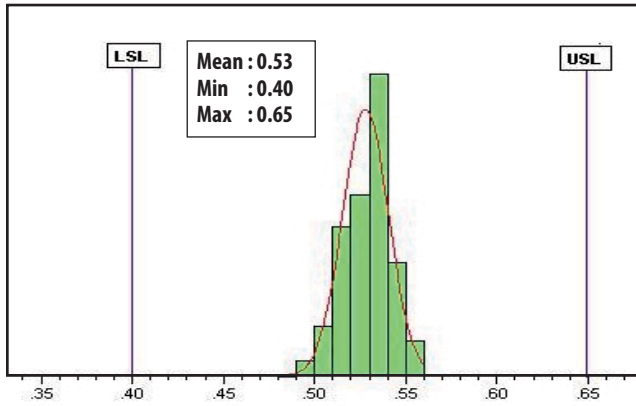

Figure 1. V_{gg} @ 1.95GHz, 5V, 50mA
- Measurements at 1.85 GHz obtained using demo board described in Figure 1.